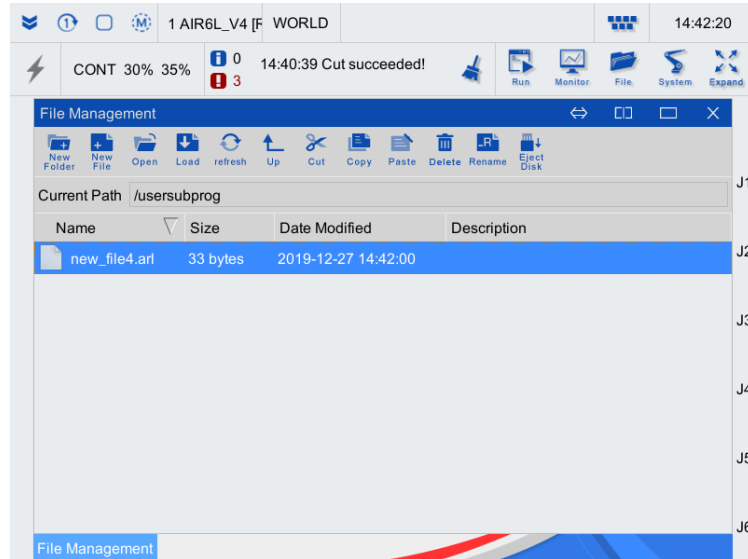

Figure7-1 "File Management" interface
Step1. Click "File/File Management" on the main interface, enter the "File Management" interface and click "New" to create an .arl program, as shown in Figure7-1